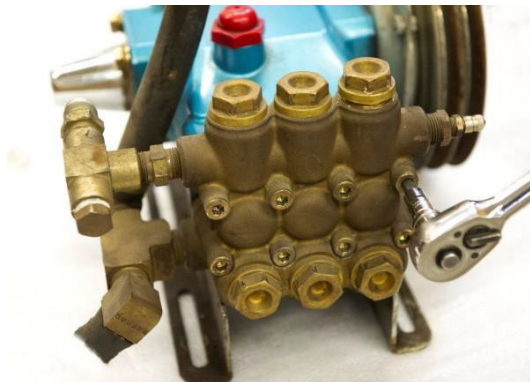

Figure 16: Removing the cap bolts
1. Using a 6 mm hex-key wrench, remove the eight cap bolts from the manifold head (see Figure 16).